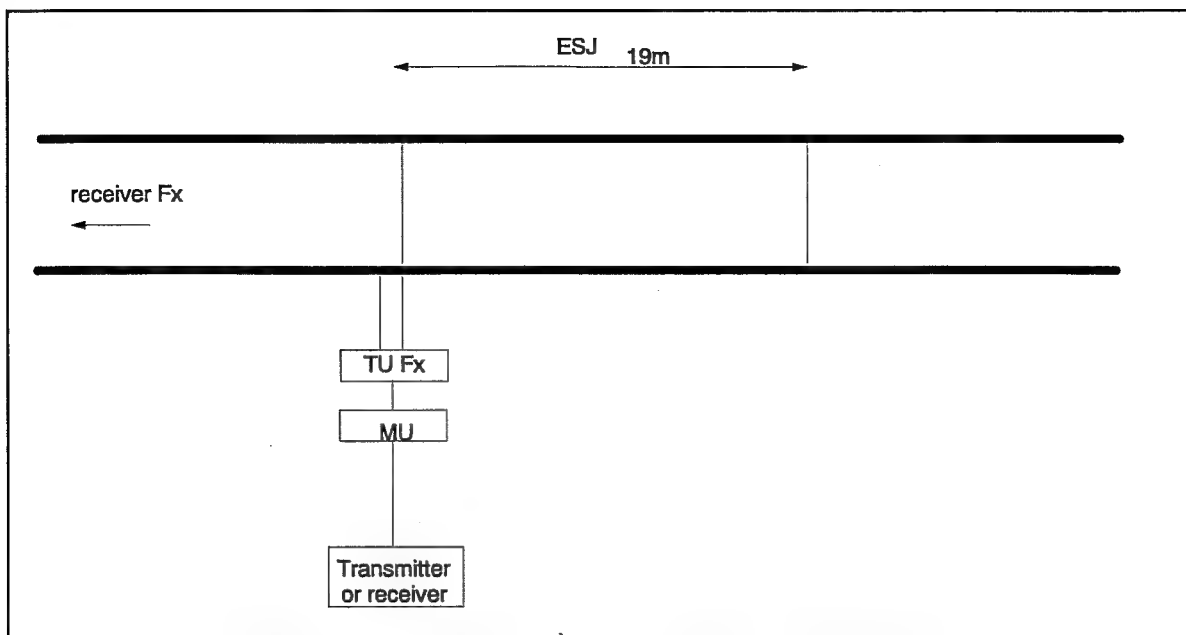

Figure 9 - interface with area without track circuits
4.4.2.4 with transmitter or receiver located in interface with areas non mounted with track circuits (fig.9).